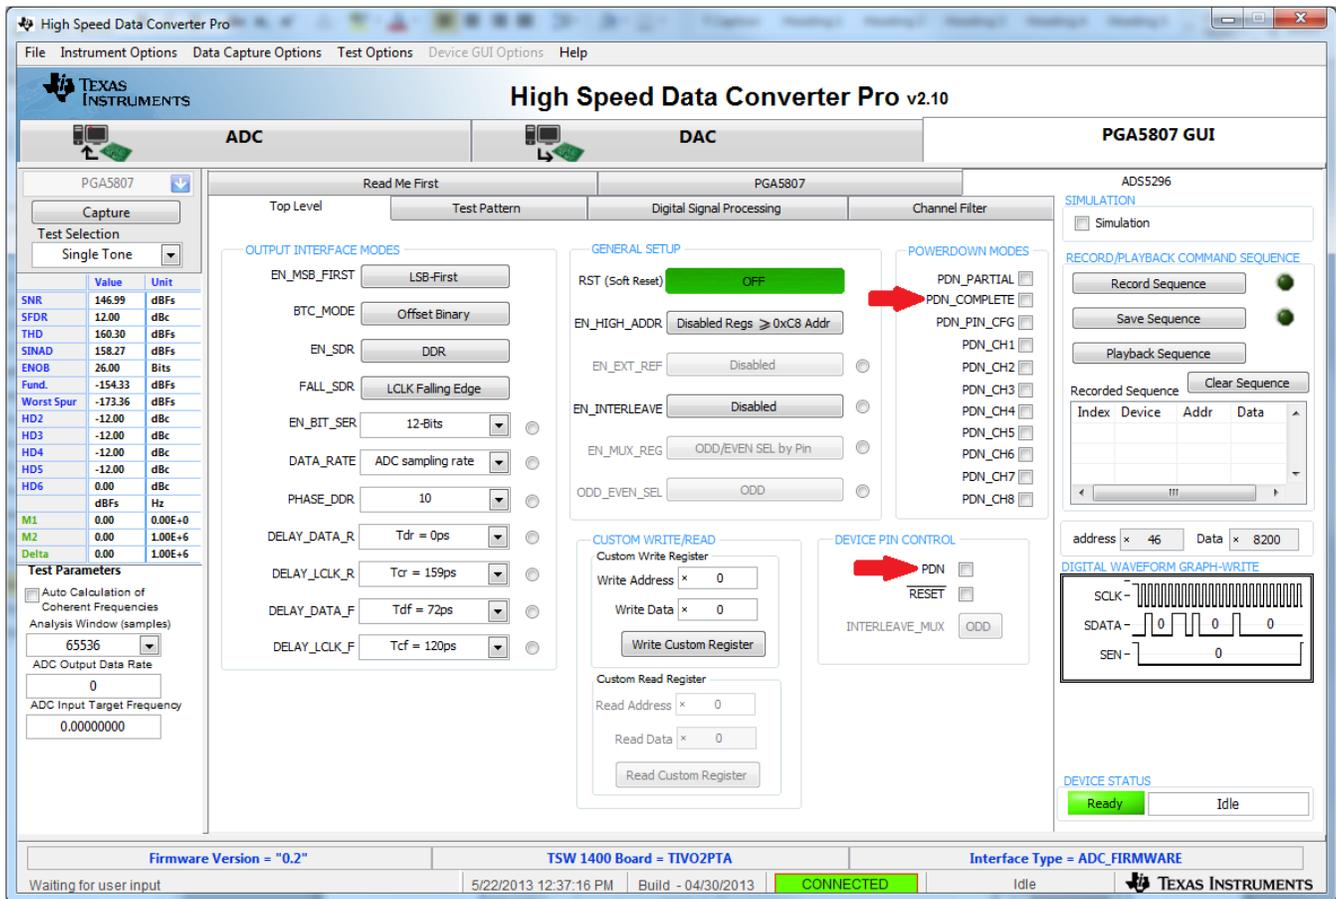

Figure 31. ADS5296 Tab of the PGA5807 GUI
As shown in Figure 31, the ADS5296 tab contains all controls pertaining to the ADS5296 device installed on the EVM.
- Verify that communication between the PGA5807 EVM and the PGA5807 GUI is established by toggling either the **PDN_COMPLETE** checkbox or the **PDN** checkbox, as indicated on Figure 31. Checking either box should make +5-V power supply current drop from ~650 mA – 750 mA to ~350 mA – 450 mA. If the DC current is approximately 480 mA, with both power down boxes unchecked, it indicates that the ADS5296 is not receiving the sampling clock. Please ensure that the 3-pin headers are configured as described in Section 3.2. Before continuing, ensure that both power down boxes are left unchecked. At this point, the GUI is confirmed to be communicating correctly with the EVM and testing can begin.